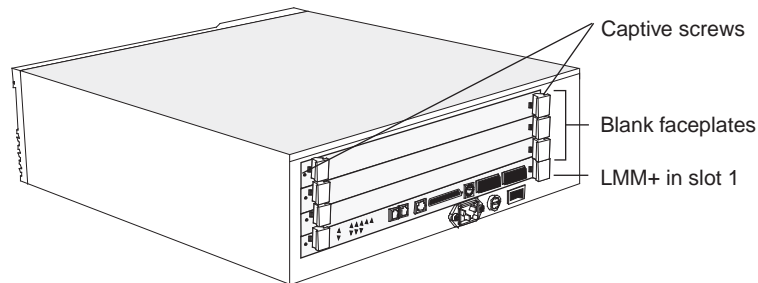

Figure 2 LLANplex 6004 with Blank Faceplates
- 3 Unscrew the captive screws on the module's faceplate. See Figure 2.